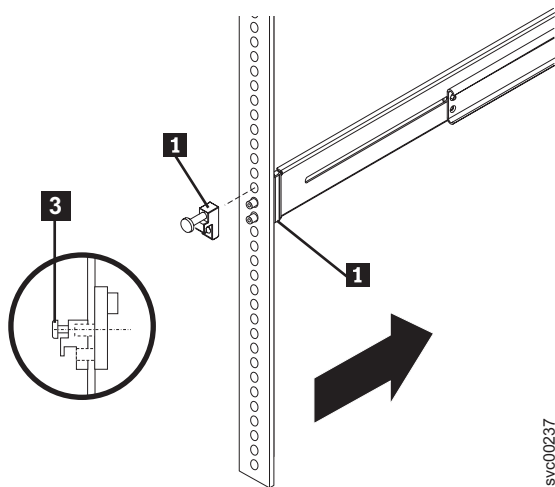

Figure 49. Removing the latch strike from the front of the slide rail
1. Loosen and remove the captive screw **3** and latch strike **1** from the left rear mounting flange, as shown in Figure 49 on page 57, to release the slide rail **2**. Loosen and remove the captive screw from the right rear mounting flange and release the other slide rail in the same way.